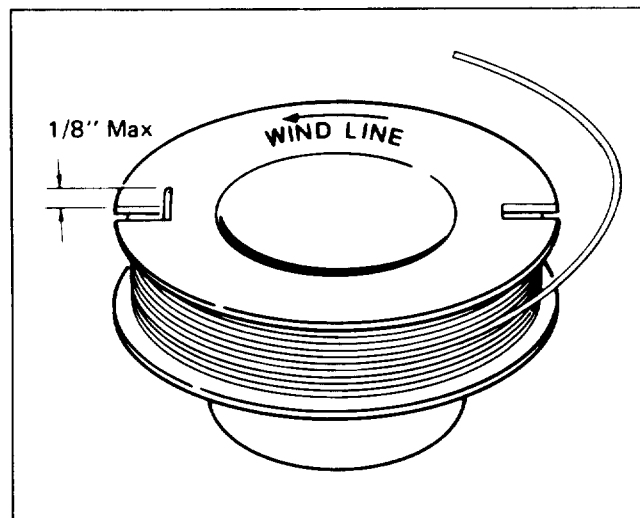

Figure 12
A. Hook one end of line into groove on spool, allowing no more than 1/8" to protrude. Wind line in direction of arrows on spool in level rows between spool flanges as shown in Figure 12.